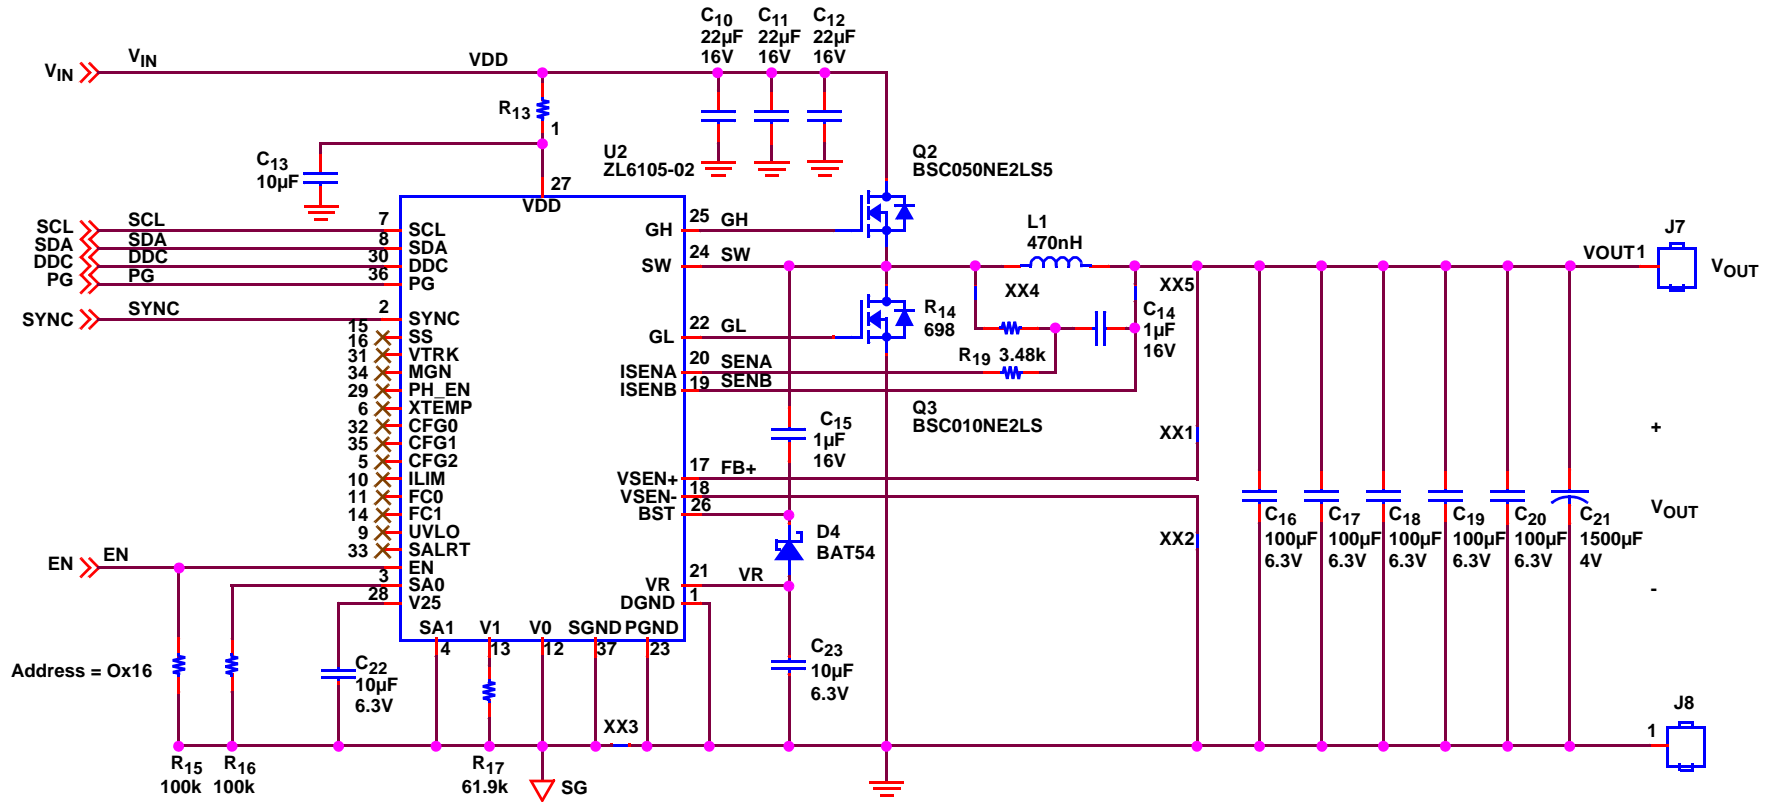

FIGURE 4. ZL6105-1CH-DEMO1Z DEMO BOARD
The ZL6105-1CH-DEM01Z Demonstration Board schematics are shown in Figures 4 and 5. The hardware enable function is controlled by a toggle switch. The Power-Good (PG) LED indicates that  $V_{OUT}$  is regulating. The right angle headers at opposite ends of the board are for connecting a USB to SMBus control board or for daisy chaining of multiple Intersil evaluation boards.